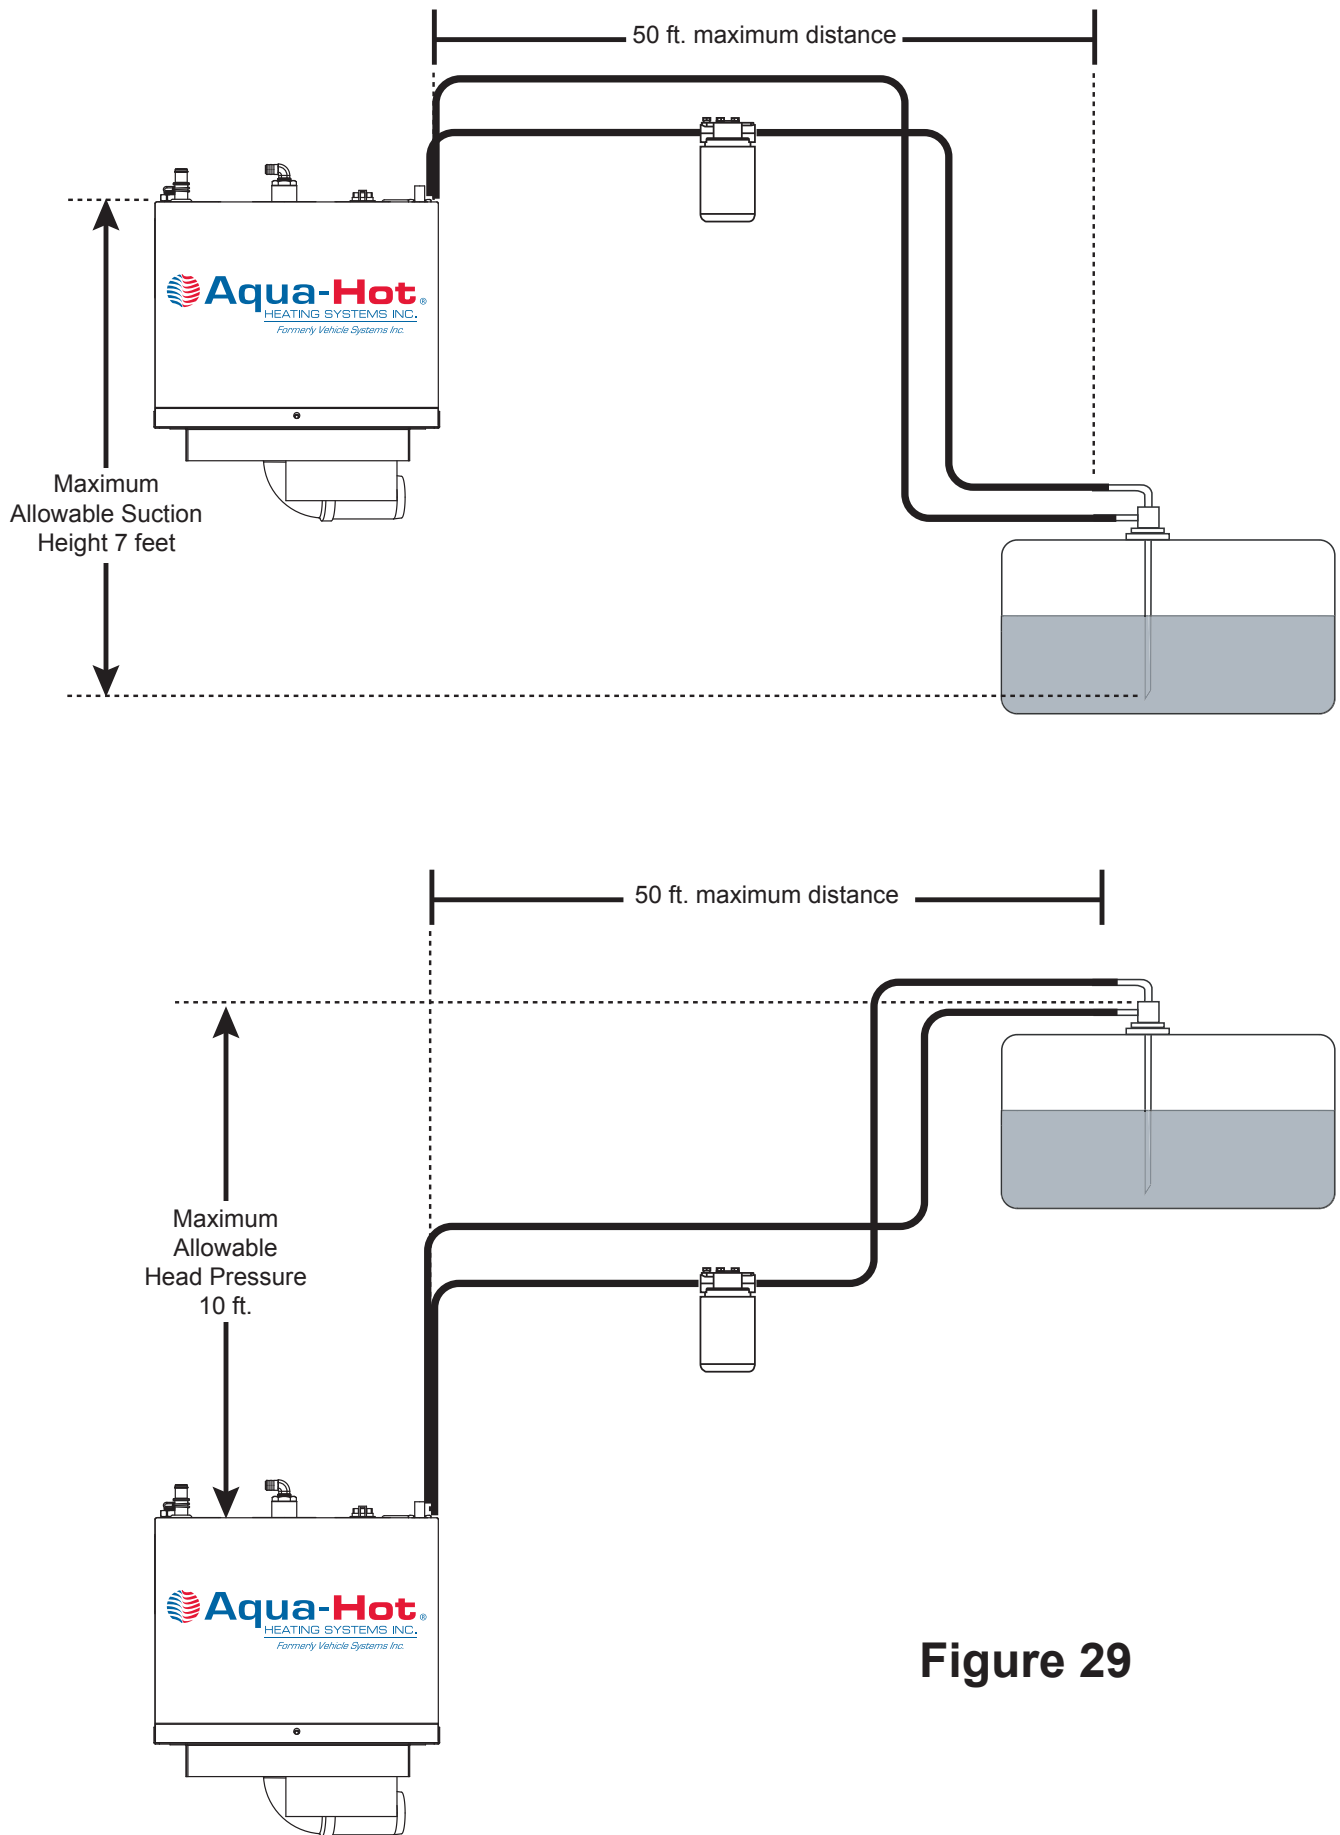

Figure 29
- Fuel head pressure should not exceed 10 feet; reference Figure 29.
- The combined length of the supply and return Fuel Lines should not exceed 100 feet in total length; reference Figure 29.
6. Cut the Supply Fuel Line at the Fuel Filter mounting location and connect the Fuel Lines as illustrated in Figures 29 and 31.